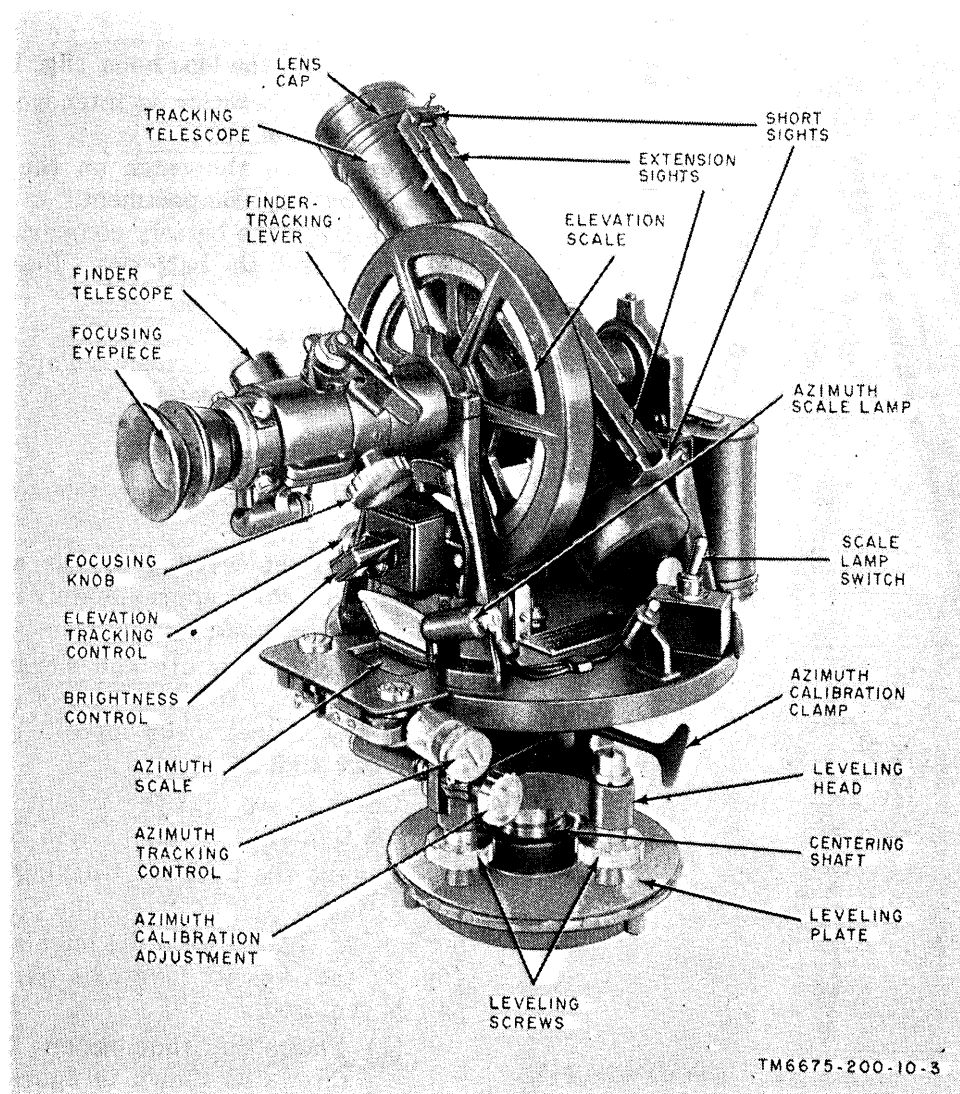

Figure 4. Theodolite, view of controls, scales, and indicators.
12. Orienting Controls and Indicators (fig. 4)
13. Operating Controls and Scales (fig. 4)
- a. Disengage the azimuth tracking control (fig. 4) by pulling it away from the azimuth scale.
d. Be sure that the azimuth calibration clamp (fig. 4) is tight.
e. Unscrew the theodolite from the base plate (fig. 1) by turning the leveling plate (fig. 4) counterclockwise.
g. Remove the lens cap (fig. 4) from the tracking telescope.
i. Place the lens cap (fig. 4) on the base plate block that held the lens hood (fig. 1).
- (1) Loosen the catch on the top of the battery compartment.
- (2) Open the battery compartment.
- (3) Install the batteries. Be sure that the base of each battery contacts the springs.
- (4) Close the battery compartment and secure the catch.
a. Position the tracking telescope (fig. 4) vertically.
17. Focusing (fig. 4)
a. Disengage the azimuth tracking control (fig. 4) by pulling it away from the azimuth and elevation mounting.
e. Engage the azimuth tracking control (fig. 4) by pushing it toward the azimuth and elevation mounting.
i. Tighten the azimuth calibration clamp and turn the azimuth calibration adjustment (fig. 4) until the compass needle lines up exactly over the S mark on the compass face.